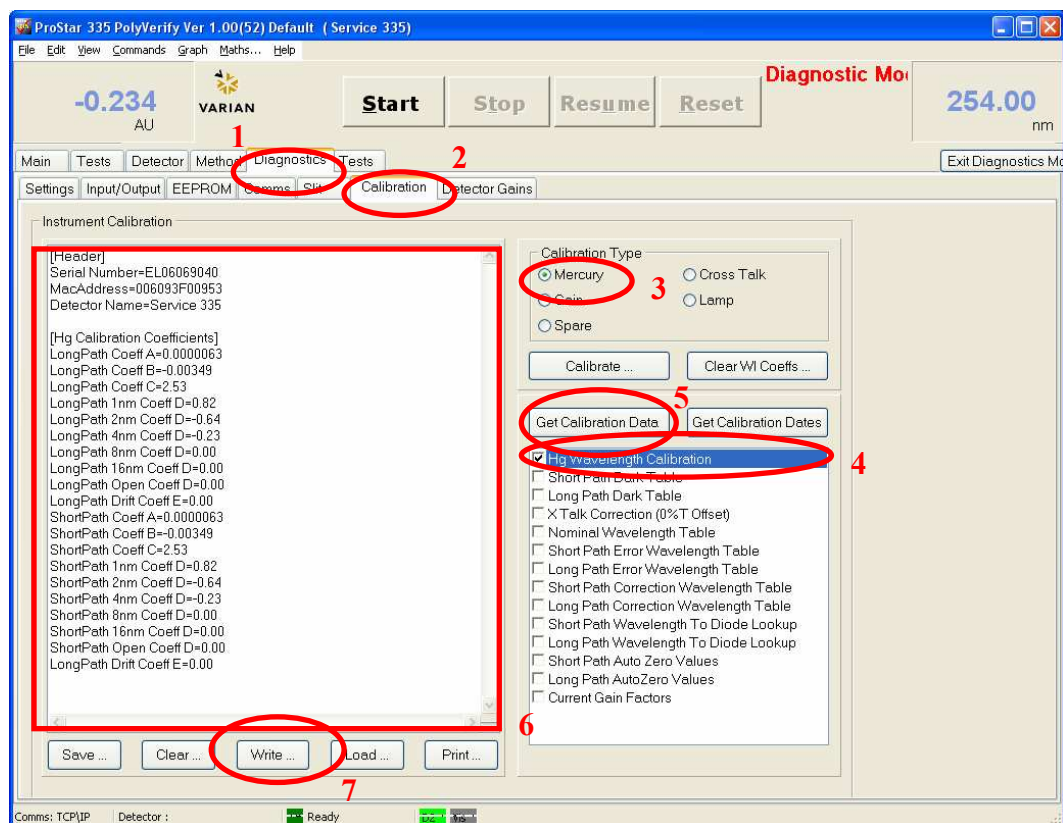

Figure 5: PolyVerify Screen Capture
- 7) Once the detector is bolted into the detector housing and the electronic connects have been made, then connect to PolyVerify (Figure 5) and go to the Diagnostics section (Ctrl-Shift-F10).